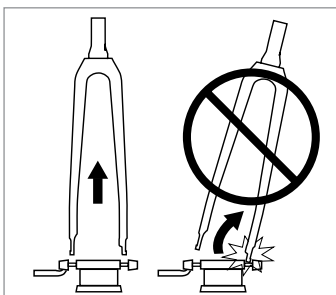

Figure 8
2. When removing the fork from the clamping device make sure to pull/push straight up allowing the dropouts to be removed evenly and at the same time. Do not tilt the bike to remove it from the clamping device, as dropout damage can result (fig. 8).